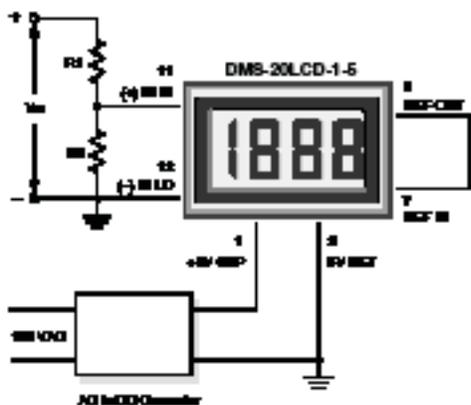

Figure 4. Input Attenuation Circuit
3. **Engineering Scaling:** For measuring voltages greater than the full scale input range of a given meter, the input signal must be attenuated. A simple voltage divider (similar to that shown in Figure 4) will scale the input to within the range of the selected meter. R1 and R2 should be precision, ±1%, metal-film resistors with absolute TCR's less than 50ppm/°C. See ApNote4 for more information on engineering scaling.